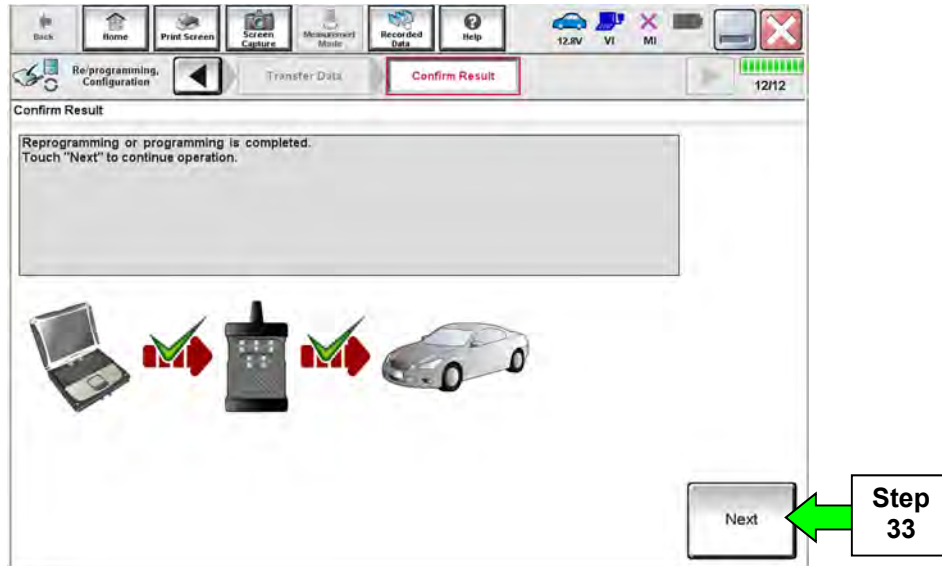

Figure 18
31. When the screen in Figure 18 displays, reprogramming is complete.
NOTE: If the screen in Figure 18 does not display (indicating that reprogramming did not complete), refer to **TCM Recovery** on the next page.